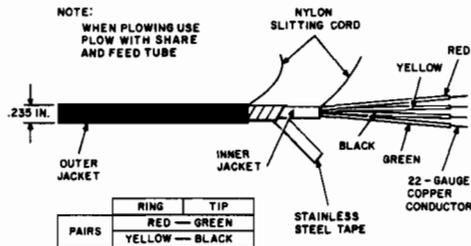

Fig. 4—F-44541 Armored Buried Wire
**4.02** F-44541 armored service wire, shown in Fig. 4, consists of one quad of 22-gauge (AWG) annealed copper conductors, individually insulated with distinctively colored (red, green, yellow, and black) solid polyethylene. The insulation of the conductors is colored for purpose of identification.